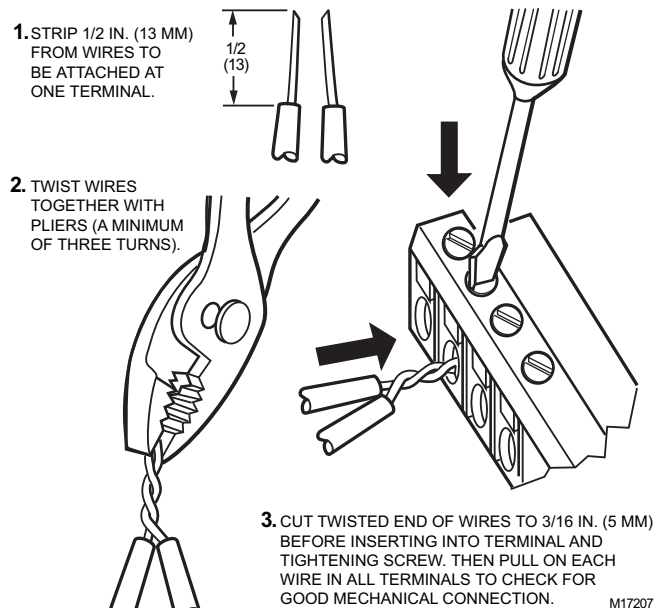

Fig. 15. Attaching two or more wires at terminal blocks.
NOTE: When attaching two or more wires to the same terminal, other than 14 AWG (2.0 sq mm), be sure to twist them together. Deviation from this rule can result in improper electrical contact (see Fig. 15).
3. If two or more wires are being inserted into one terminal location, twist the wires together a minimum of three turns before inserting them (see Fig. 15).